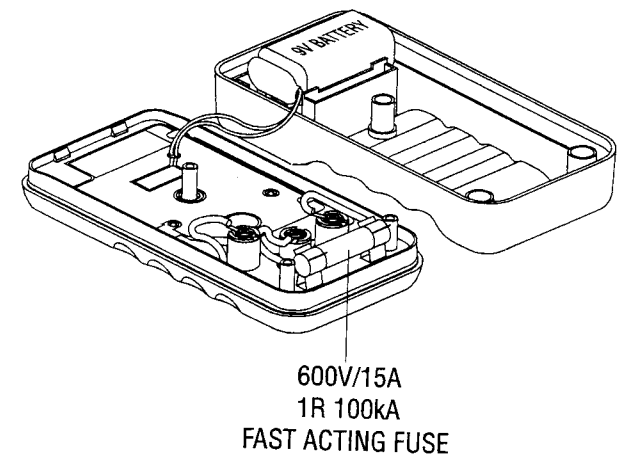

FIG 12. CHANGING BATTERY & FUSE
- 3) Loosen the three captive screws from the case bottom, see **FIG 12**